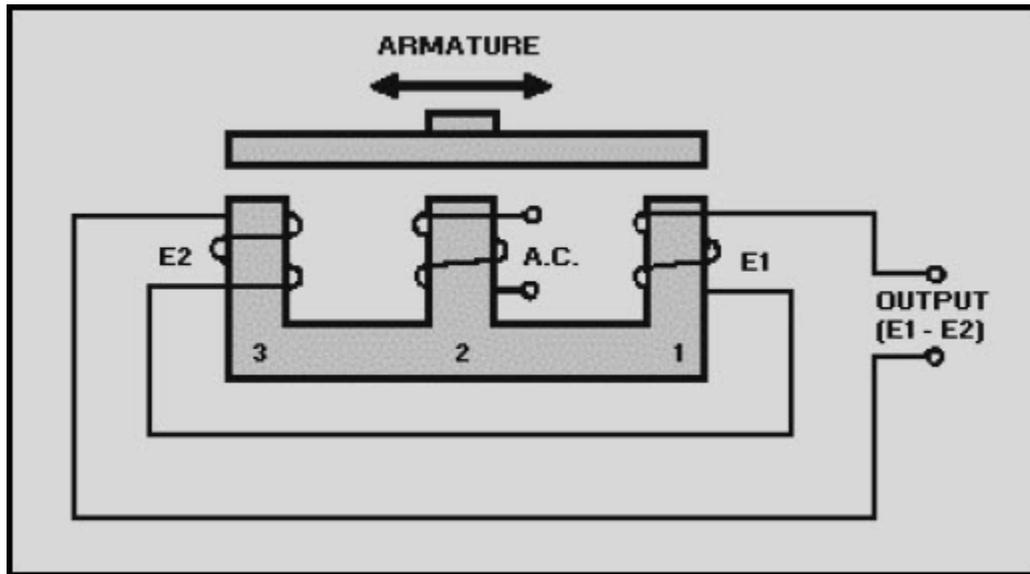

Figure 2-14 Basic-E transformer
In the basic E-transformer shown in figure 2-14, an ac voltage is applied to the primary coil (2) located on the center leg of the laminated, E-shaped core. Two secondary coils (1 and 3) are wound series-opposing on the outer poles of the core. The magnetic coupling between the primary (coil 2) and the two secondaries varies with the position of the armature. The armature can be physically moved left or right in the magnetic circuit by mechanical linkage to the load. This changes the reluctance between either pole and the armature.